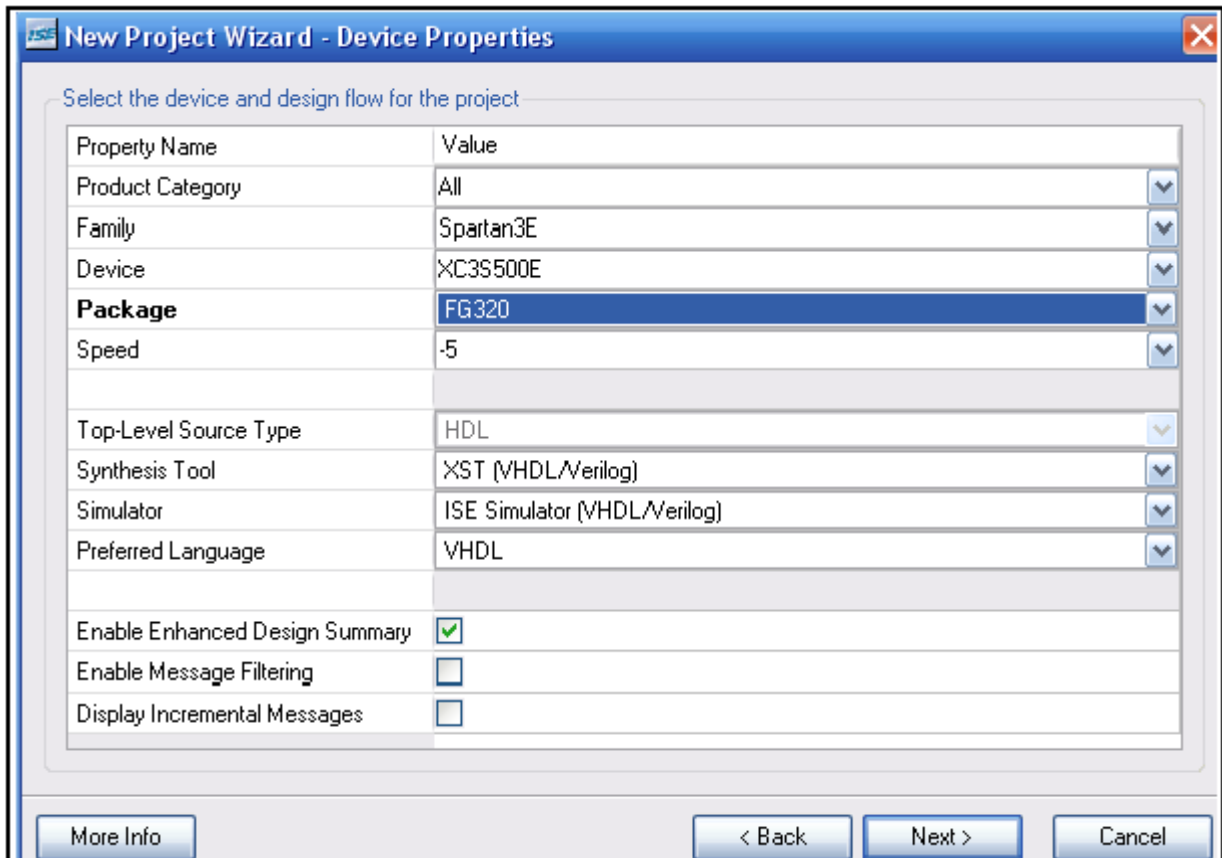

Figure 1 Device Properties
1. Start Xilinx ISE 10.1 and create a new project called "tutorial_5." Choose a project location (folder on the C drive) that will be easy to find. On the **Device Properties** window choose the settings shown in figure 1.